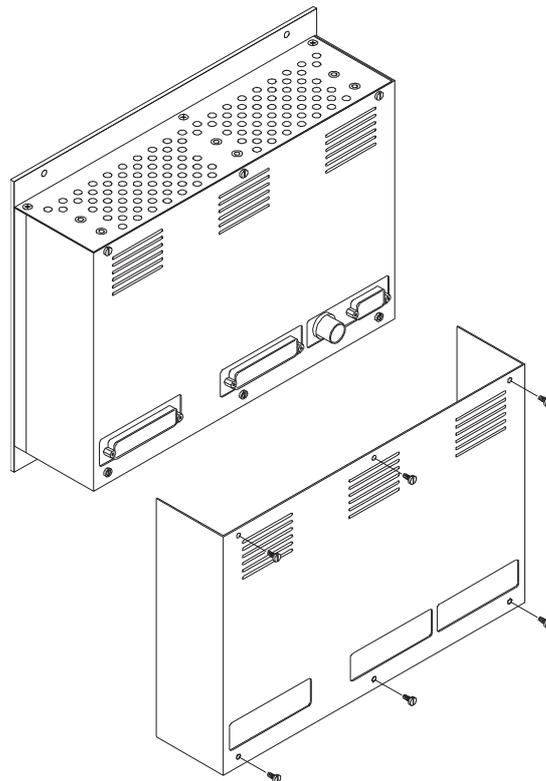

Fig. E 8-12: Remove rear cover
3. Open the backplane cover (six screws). Store screws and metal plate (Fig. E 8-12).